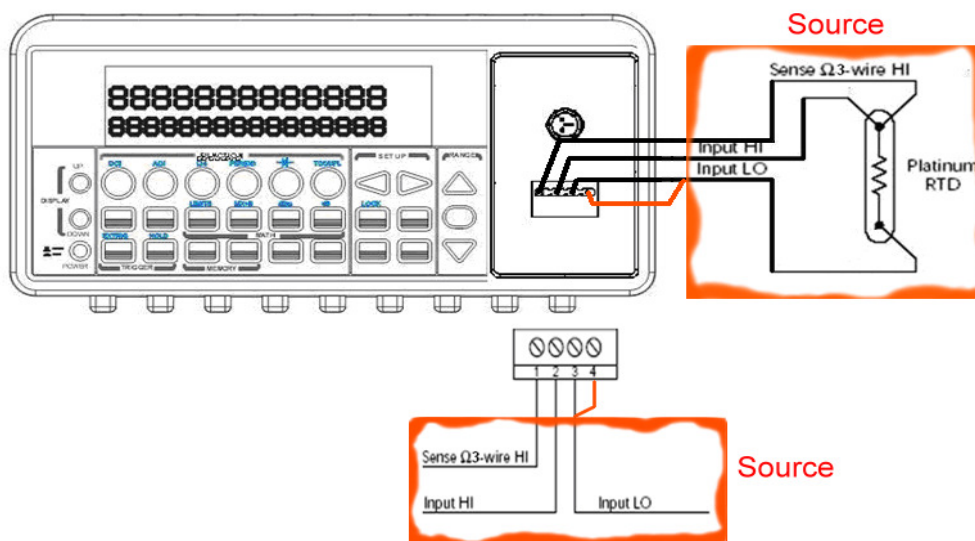

Figure 3-16
- ① Use terminals switch to select front terminals.
- ② Insert a specified adapter into the front terminals. Connect the low thermal patch leads to the adapter as shown in **Figure 3-16**.
- ③ Configure sensor type, transducer (4W) and unit using CONFIG + TEMP and ◀ or ▶. When ready, press ENTER button. For more information, refer to the section 4.1.8.
- ④ Press TEMP button.
- ⑤ Place RTD in the desired position and take the reading on the display.